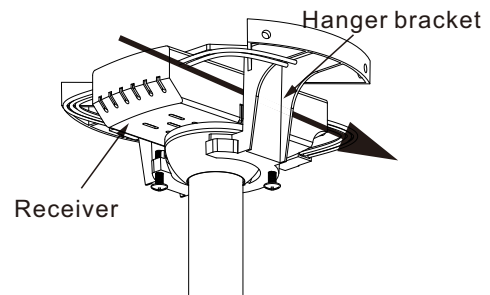

Figure 16
Step 1. (Fig. 16) Insert the receiver into the hanger bracket with the flat side of the receiver facing the ceiling.